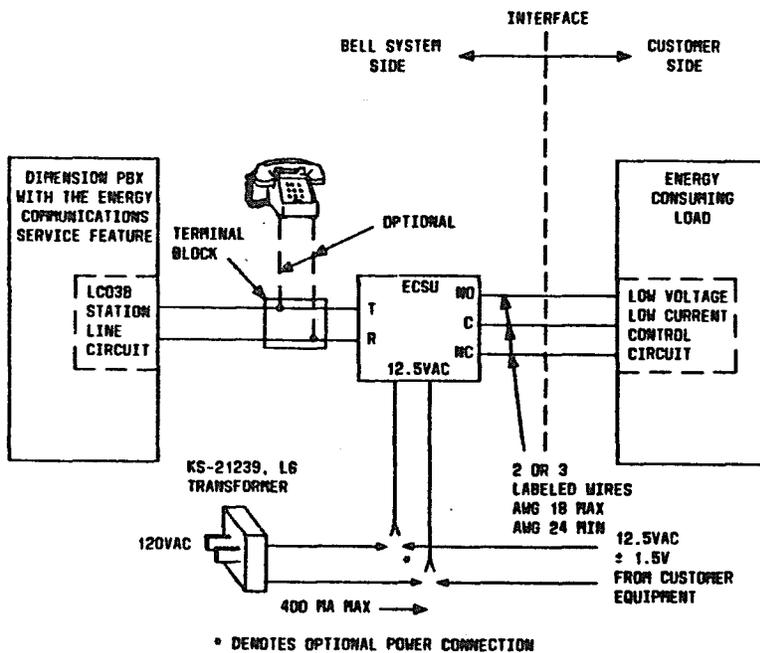

Fig. 3 - ECSU Interfacing
- 5.3 Route tip and ring (T, R) wiring to the ECSU location, if not already done. If a telephone set is sharing the line, the ECSU is simply connected in parallel with the phone (see Fig. 3).